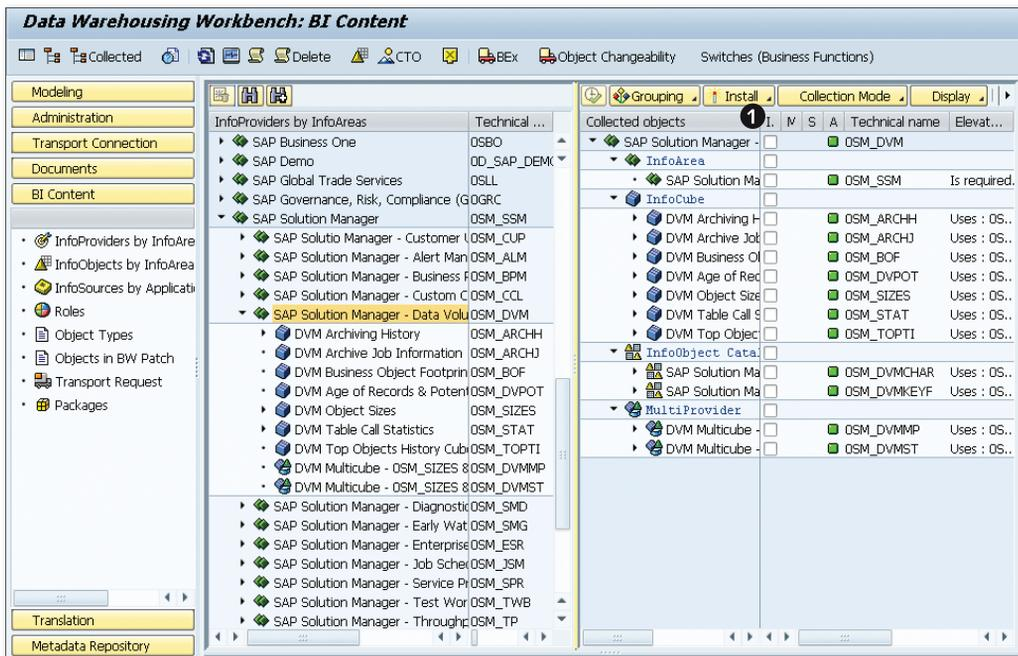

Figure 9.7 RSA1—InfoProvider
5. Drag the InfoProvider SAP SOLUTION MANAGER—DATA VOLUME MANAGEMENT from the central area to the right-hand area. In the initial status, you will be asked for the source system where you selected the respective system. After that, the screen appears as shown in Figure 9.7.
If nothing has been selected in the INSTALL column (see ❶ in Figure 9.7)—in other words, if there is no tick mark—activation was successful. Otherwise, perform the